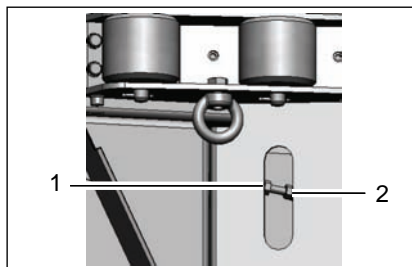

Fig. 40
4. Loosen the counternuts (Fig. 40/2) on both sides of the vehicle.
5. Turn the adjusting device (Fig. 40/1) on both sides of the vehicle as described below:
8. Tighten the counternuts (Fig. 40/2) on both sides of the vehicle.